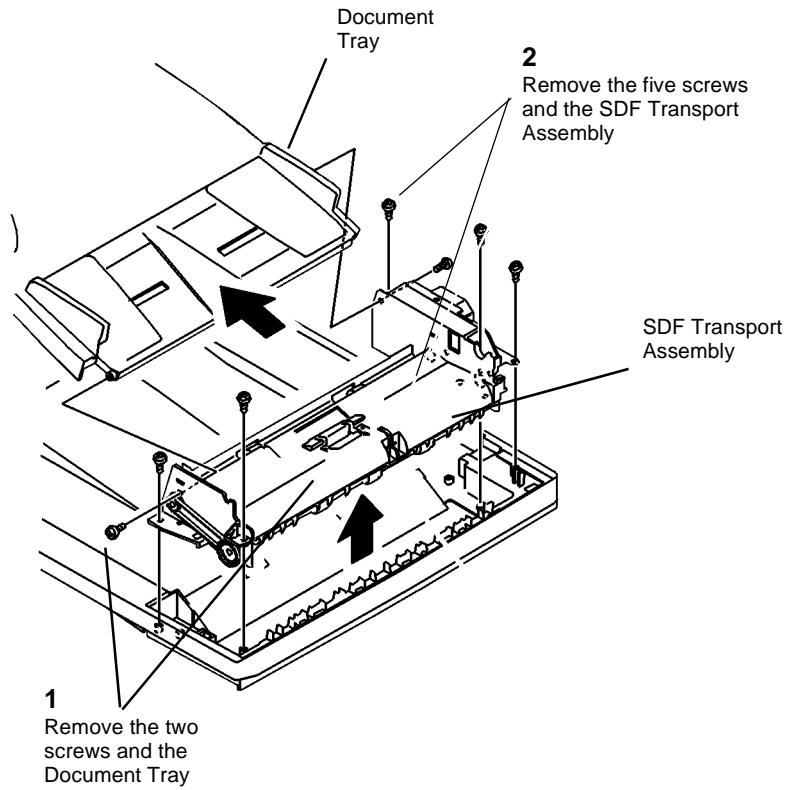

Figure 3 Removing the Document Tray
3. (Figure 3): Remove the Document Tray.